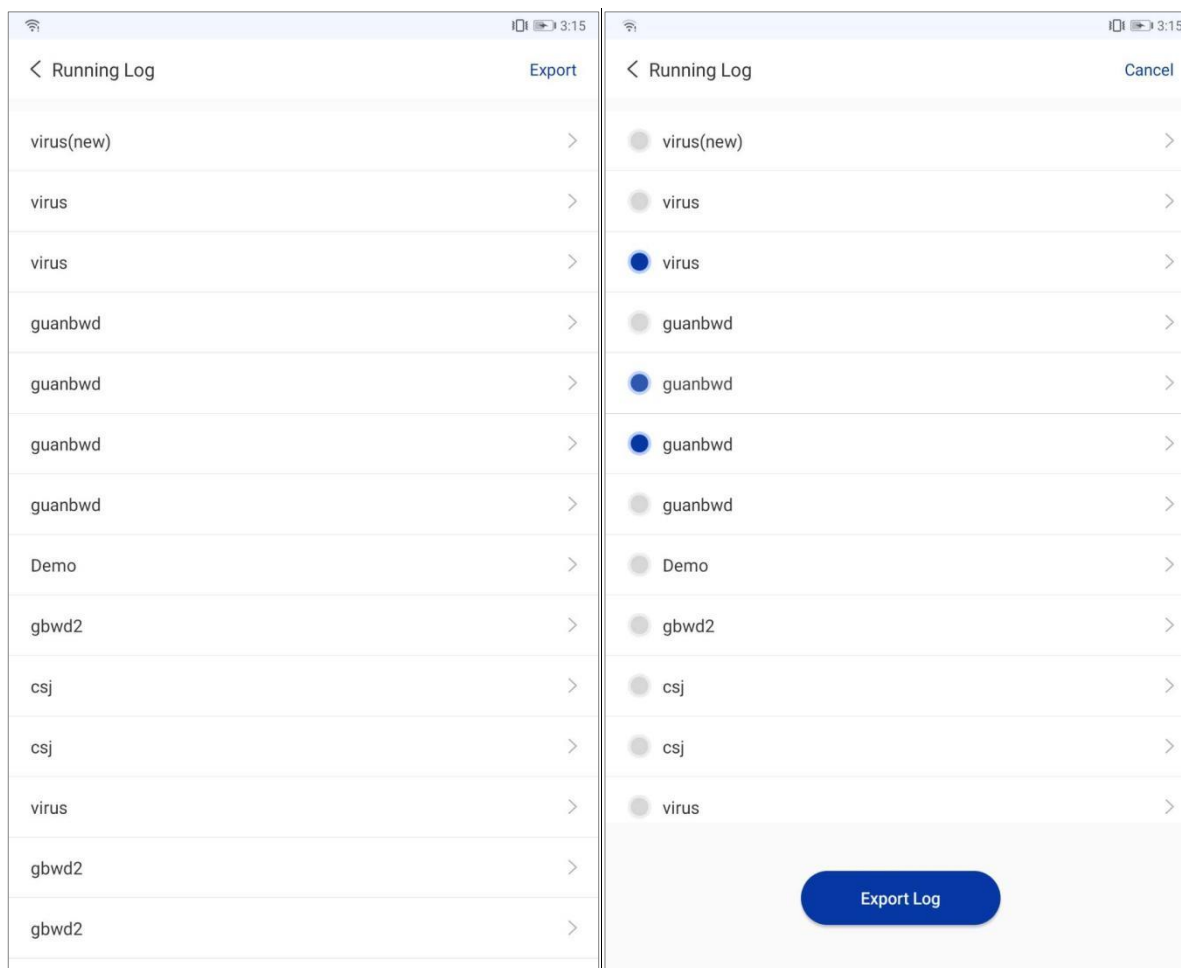

Figure 5-16. Setting Interface – Running Log
4. **Running Log:** the application software can store the running log of each experiment. User can click **< Export >** in the upper right corner of the Running Log interface, select running log and click **< Export Log >** to export it/them to the specified path in the tablet PC, as shown in figure 5-16.